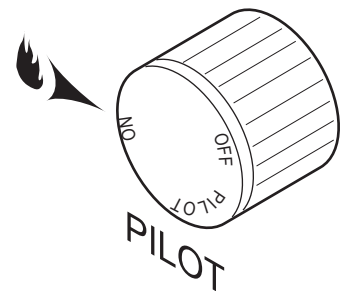

Figure 41- On Position
Depress and turn the knob counterclockwise  to the “ON” position. *Figure 41*. It will take less than four (4) seconds for the burner to ignite.